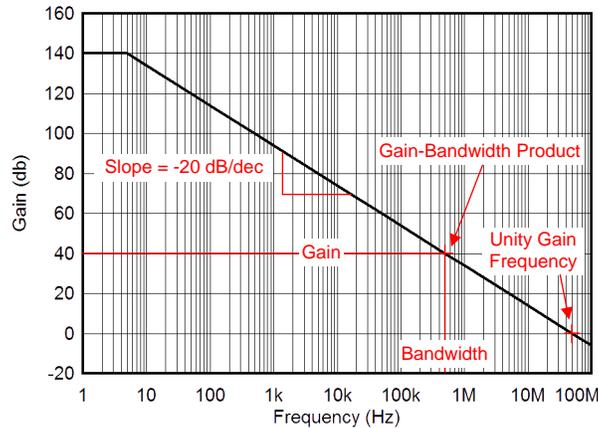

图 53. Gain-Bandwidth Product and Unity Gain Frequency
The parameters of an amplifier the best describes the small signal dynamic behaviour are the gain-bandwidth product (GBP), unity gain frequency (UGF) and phase margin (PM) of an amplifier. The GBP is a useful parameter to determine the bandwidth of an application in closed loop configurations. 公式 3 can be used to approximate the closed loop bandwidth for the OPA828. Typically the GBP is a specified parameter with the amplifier configured in a non-inverting gain of 100 (40 dB). The GBP of an amplifier is generally assumed to be constant over frequency but in some higher speed amplifiers this is not always the case. The OPA828 has a constant GBP all the way to its UGF, as such the OPA828 open-loop gain has a constant  $-20\text{ dB/decade}$  slope ( $-6\text{ dB/octave}$ ). The UGF is defined as the frequency at which the gain of the amplifier crosses  $1V/V$  (0 dB). 图 53 illustrates the concept of GBP and UGF. The OPA828 has both a GBP and UGF of 45 MHz.